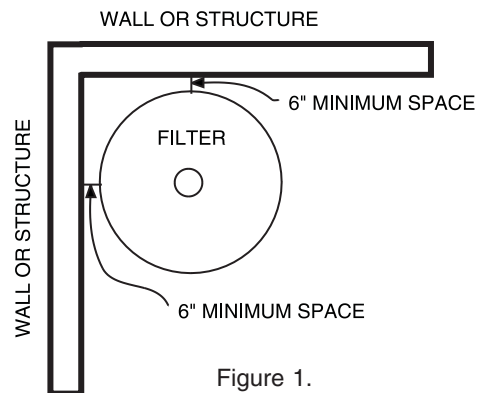

Figure 1.
5. Install electrical controls (e.g., on/off switches, timers control systems, etc.) at least five (5) feet from the filter. This will allow you enough room to stand clear of the filter during system start up.
6. Provide sufficient clearance around the filter to permit visual verification that the lock ring is properly installed, see Figure 1.